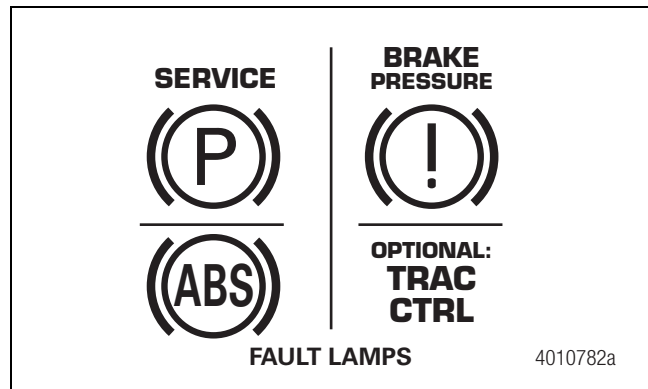

Figure 3
- This fault can be attributed to symptoms described as: ABS and “Brake pressure” fault lamps illuminated and an “audible buzzer” activation. Lamps for optional features may also illuminate (ATC or Traction Control and Park Brake Service). Figure 3.